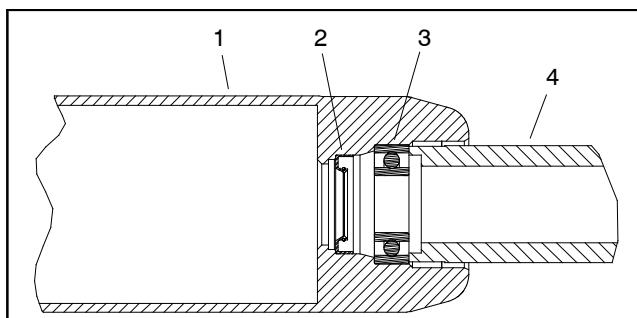

Figure 14
A. Position a new bearing into one end of roller tube. Use bearing/outer seal tool (see Special Tools) with a soft face hammer to fully seat bearing against roller shoulder (Fig. 14). After bearing installation, make sure that it rotates freely with no binding.